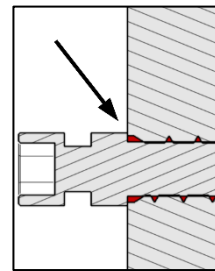

Figure 1
3. Using the supplied 5/16" (8mm) Allen Wrench to install the Wall Anchor up to the collar. **(Figure 1)** Continued...